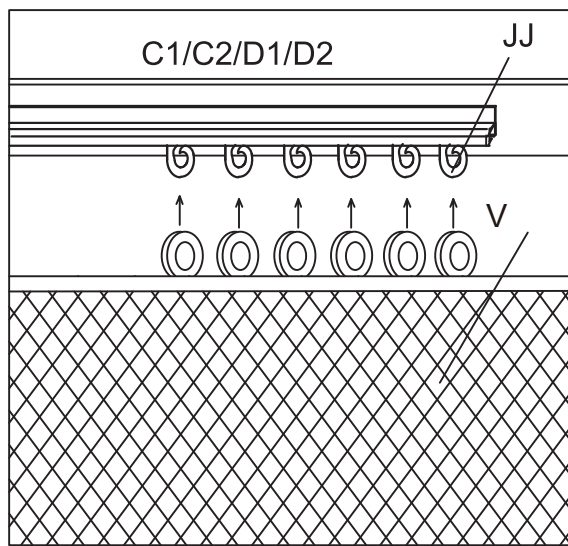

Figure 17-1
- 17.1: Hang the Mosquito Net (V) to the Mosquito Net Hooks (JJ). Hanging on the inner side of the track, Repeat for all sides. See Figure 17-1 .